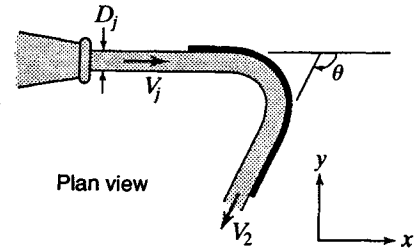

Figure X6.6.6
6.6.6 In Fig. X6.6.6 assume that friction is negligible, that  $\theta = 115^\circ$ , and that the water jet has a velocity of 95 fps and a diameter of 1 in. Find (a) the component of the force acting on the blade in the direction of the jet; (b) the force component normal to the jet; and (c) the magnitude and direction of the resultant force exerted on the blade.